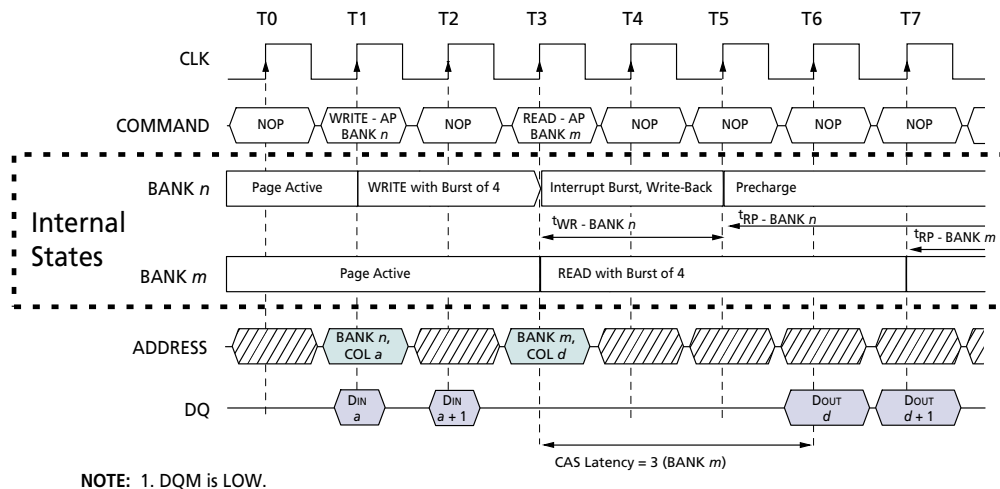

Figure 26
3. Interrupted by a READ (with or without AUTO PRECHARGE): A READ to bank m will interrupt a WRITE on bank n when registered, with the data-out appearing CAS latency later. The PRECHARGE to bank n will begin after t^{WR} is met, where t^{WR} begins when the READ to bank m is registered. The last valid WRITE to bank n will be data-in registered one clock prior to the READ to bank m (Figure 26).